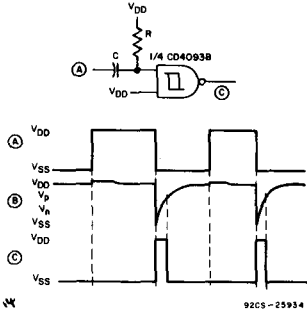

Fig. 14 - Falling-edge detector.
**Edge Detector** - Fig.13 shows a circuit that provides a short negative-going output pulse for every positive-going edge at the input. The input waveform is coupled to the input by capacitor C; the pulse length depends, as before, on R and C. If a negative going edge detector is required, the circuit of Fig.14 should be used.